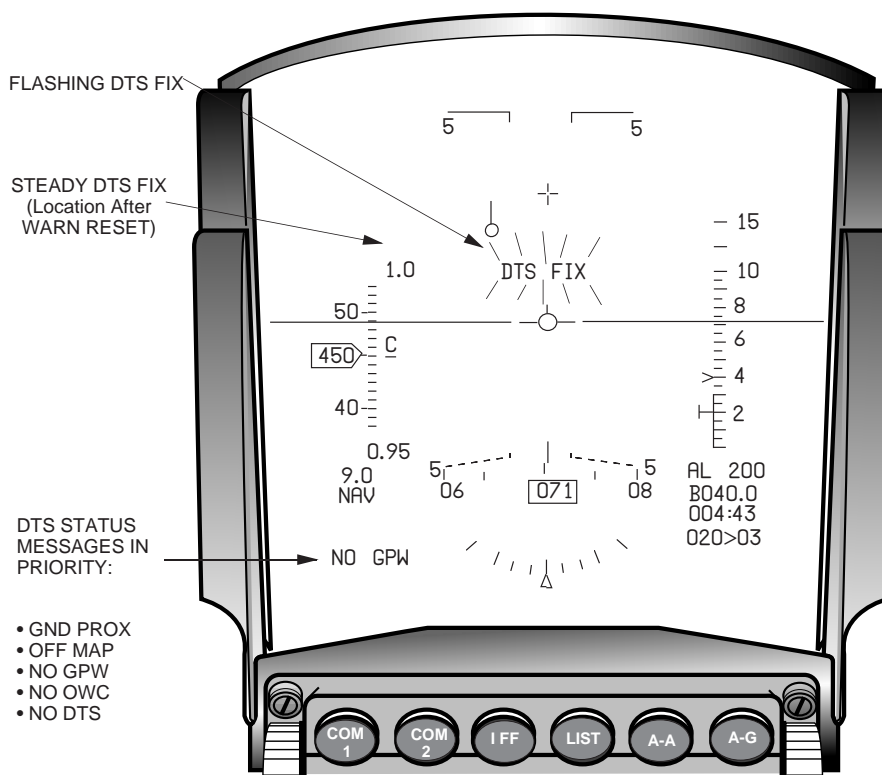

Figure 2-32 DTS TRN HUD Indications
**TRN Displays and Advisories.** TRN-related DTS displays and advisories can be found primarily on the HUD and UFC/DED. There are seven DTS System Status messages that can be displayed on the HUD as shown in Figure 2-32. One of the messages, DTS FIX, is located in the approximate center of the HUD FOV. The remaining six messages are displayed in the lower left corner of the HUD. The DTS System Status HUD messages appear in the following priority:
- (1) **DTS FIX:** This message appears in a flashing state in the center of the HUD field of view whenever the TRN function has reverted from Track (TRK) to Acquisition (ACQ) mode. TRK means that the TRN is adequately locating (or tracking) the aircraft position within the data base. ACQ means that TRN can not adequately locate the aircraft position within the database. ACQ will occur whenever the horizontal and/or vertical positions of uncertainty exceed 655 feet and 40 feet, respectively, or an INS inflight alignment is being performed. If the aircraft navigation system accuracy is HIGH (NAV Status DED page), the avionics system automatically sends a position fix to TRN to assist it in going back into track mode. If aircraft navigation system accuracy is other than HIGH when the DTS FIX message appears, the pilot should do a manual navigation position fix to update the aircraft navigation solution which, in turn, will update the aircraft position in the database and help TRN re-establish track. If TRN still does not enter track, the pilot may try to fly over rougher terrain if possible. The DTS FIX message will continue to be displayed until TRN goes into track mode. However, the message may be removed from the center of the HUD by depressing the WARN RESET button on the UFC. Depressing WARN RESET changes the message to a steady state and moves it to the upper left corner of the HUD. In order to reduce HUD clutter, the DTS FIX message is inhibited whenever Dogfight or A-A Guns are selected.
- (2) **GND PROX:** This message is displayed whenever a PGCAS warning (HUD and MFD Break X and VMU "Pull-up, Pull-up,") is issued.
- (3) **OFF MAP:** Off Map is displayed whenever the aircraft is flown off the DFM. This message automatically resets when the aircraft is maneuvered back on the DFM.
- (4) **NO GPW:** Displayed when PGCAS function has not been selected or when the TRN function can not support PGCAS operation.
- (5) **NO RALT:** NO radar altimeter (RALT) is displayed whenever CARA data is invalid or not available. RALT data may be invalid or unavailable due to CARA malfunctions or the aircraft being flown outside the pitch, bank, or roll limits of the CARA system.
- (6) **NO OWC:** Displayed when the DTS is operational but unable to support the OWC functions.
- (7) **NO DTS:** This message is displayed whenever the DTS capability hosted in the DTS/DTC is not operational. Note: Failure to lock the DTS/DTC in the DTU may also cause a NO DTS message on the HUD.